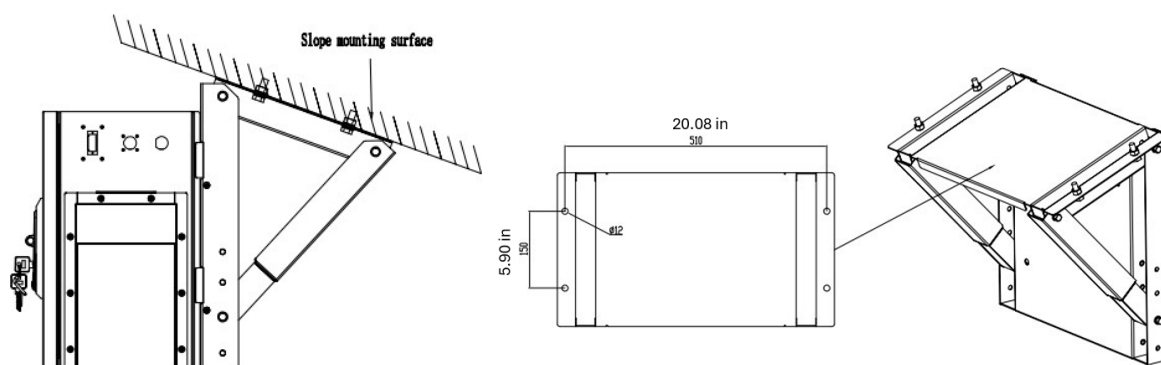

Figure 5.9 Dispenser Mounted on A Steel Frame or Gantry
- Drill holes into the wall based on the dimensions of the bracket shown in figure 5.9. Secure the bracket onto the wall with four M10\*60 bolts and torque them down to the specified value.